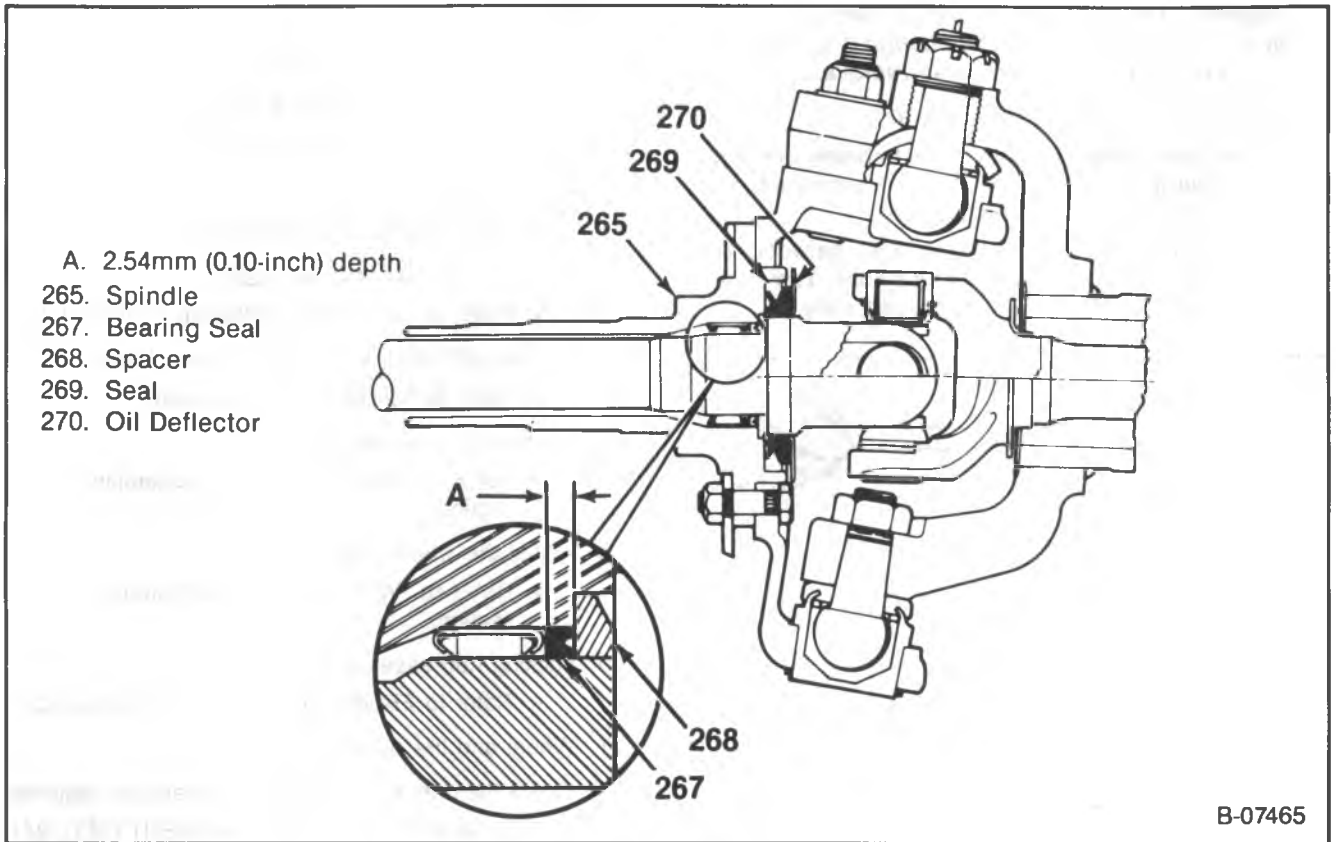

Figure 58 — Spindle Components
- Bearing seal (267) and shaft bearing (266) (figure 58).
- Spacer (268), seal (269), and oil deflector (270) from the axle shaft (figure 58).